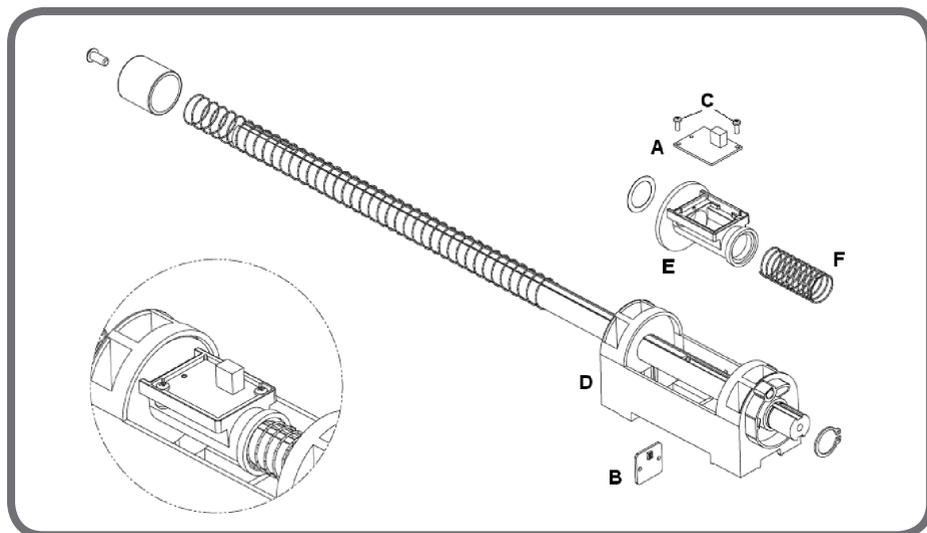
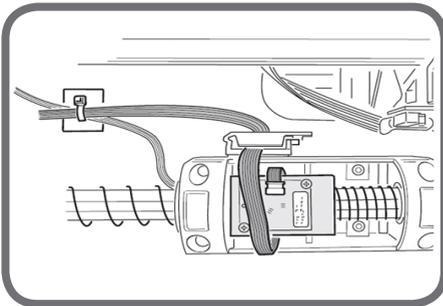

Fig. 6
Fig. 8
If the sensor (B, Fig.6) does not read, check:
If the checks above produce a negative result, replace the sensor (B, Fig. 6) as follows:
- disassemble the measuring sensor support (D, Fig. 6), using the 4 fixing screws, from the internal plane;
If the sensor (A, Fig. 6) does not read, check:
- unscrew the two self-threading screws (C, fig. 6) then remove the sensor from the sensor support (E, Fig. 6);
- if the sensor A flat must be replaced, check that the flat is reconnected correctly (see Fig. 8) on the card. Also, the fixing of the flat on the base must be done so that it is long enough for moving the sensor without having the cable risk to twist around the inside of spring F figure 6.